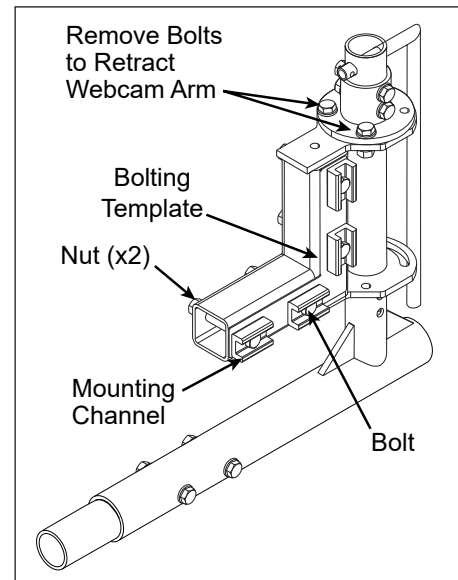

Figure 28: Pivoting Webcam Arm Base
1. Remove the two short bolts from the top of the elbow assembly and loosen the third bolt that is located in the slot for rotation. Refer to **Figure 28**.